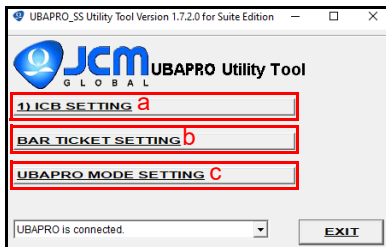

Figure 2 UBAPRO_SS Utility Tool Screen
4. When the UBAPRO_SS Utility Tool Screen is displayed, click on 1) ICB SETTING (Figure 2 a).
4. When the UBAPRO_SS Utility Tool Screen is displayed, click on BAR TICKET SETTING (Figure 2 b).
4. When the UBAPRO_SS Utility Tool Screen is displayed, click on UBAPRO MODE SETTING (Figure 2 c).